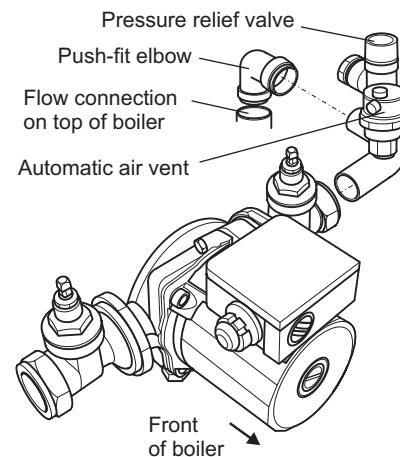

Figure 7-5: 15/26 pump assembly
See Figure 7-5
7. Fit the pressure relief valve and automatic air vent onto the manifold pipe, then push the manifold pipe end into the 22 mm push-fit elbow on the flow pipe. Refer to Figure 7-5.